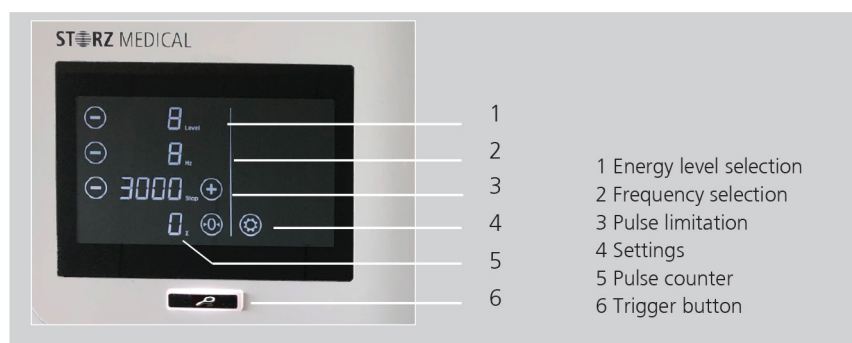

Fig. 5-3 Default user interface and trigger button
The trigger button is on the front of the device, below the display (see Fig. 5-3). A high-voltage test must be performed daily, after the device has been switched on and before any pulses are triggered.
- Press the trigger button once after the device has been switched on (see Fig. 5-3). If the energy levels and frequencies appear on the parameter display after a few seconds, this indicates that the HV test was successful.